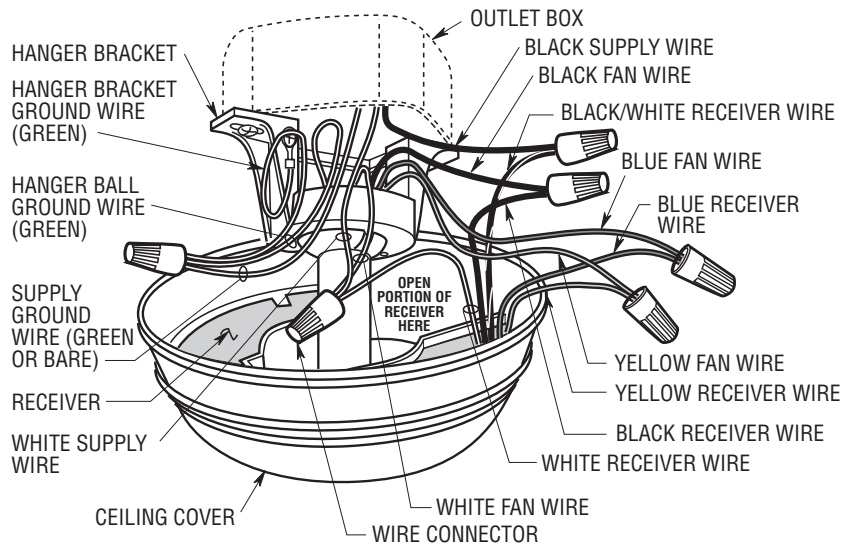

Figure 15
1. Pull the wire leads, coming from the end of the downrod, and the supply wires through the open side of the hanger bracket. (Figure 15).
2. Position the SW105 Receiver (supplied) in the ceiling cover so that the flat side of the receiver faces up and the open portion of the receiver is to the right, as shown in Figure 15.
3. Using wire connectors (supplied), make wiring connections as follows (Figure 15 and 16):